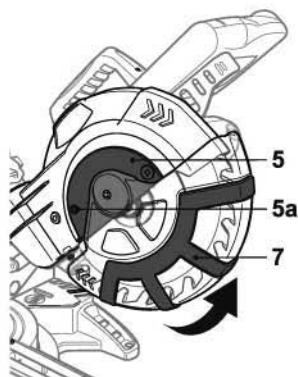

Fig. 57
- Place the workpiece flat on the turntable (14) with one edge against the fence (16).
- Adjust the plate (28c) and the bracket (28e) to the desired height (Fig. 57) and then secure the workpiece with it.